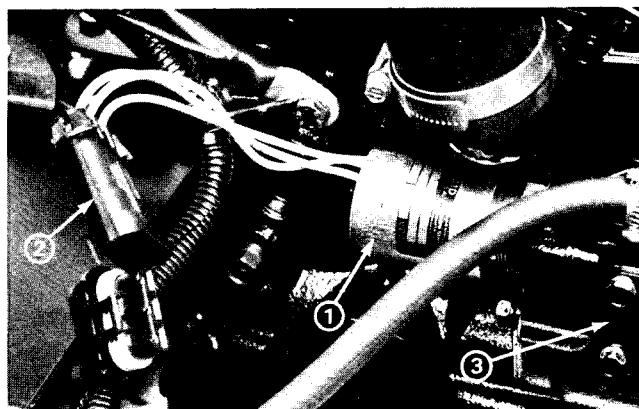

Figure 19
1. Disconnect the wire connector and remove the fuel stop solenoid from the engine (Fig. 19).